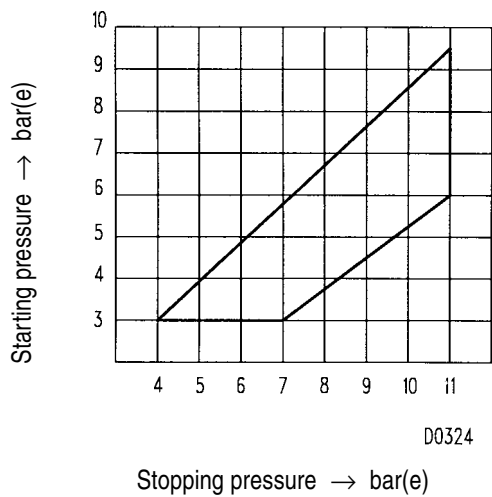

Fig. 10c. Pressure difference diagram, switch MDR3/11 (10 bar units)
The pressure difference is adjusted by means of screw (4). To reduce the difference between the stopping and starting pressures, i.e. increase the starting pressure, turn the screw anti-clockwise. To increase the pressure difference, turn the screw clockwise. The adjustment range is shown on the diagrams (Figs. 10c/d).